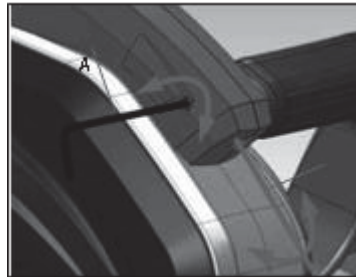

Fig.11.
1. Adjusting the laser: Tighten or loose the (A), for adjusting the laser indication direction. Adjusting tooling: M2 Hex wrench (A) as Fig.11.